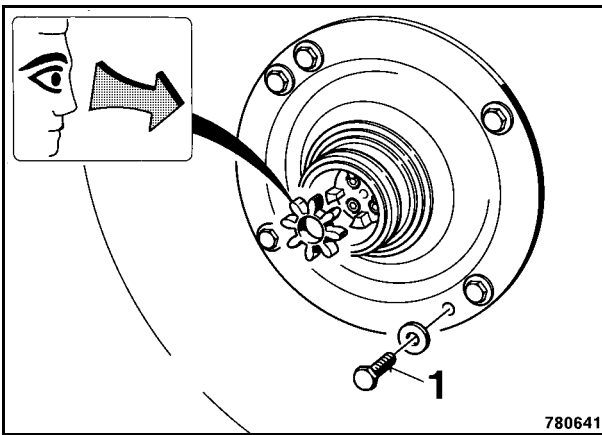

Fig. 10
16. Unscrew the fastening screws 1 (Fig. 10) for the bearing housing.